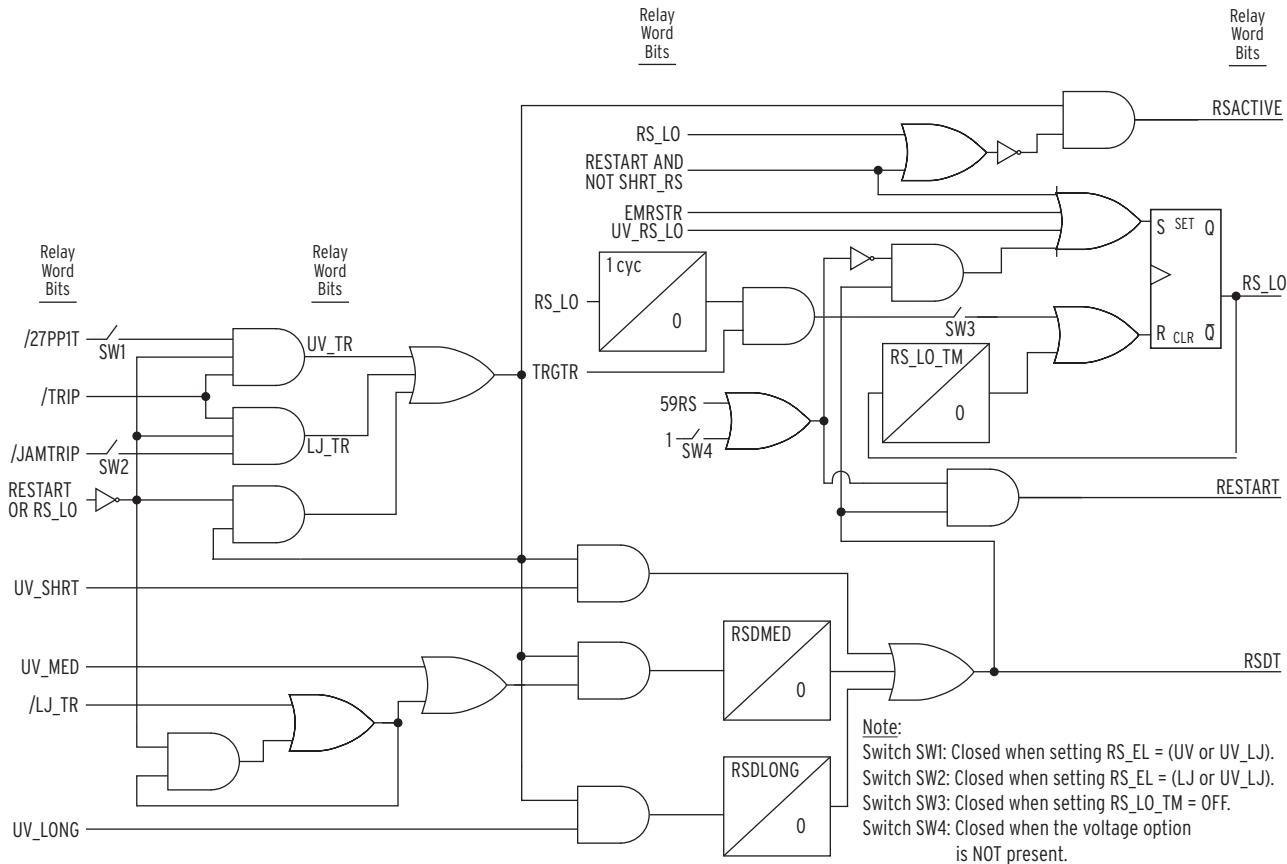

Figure 4.31 Motor Restart Logic
Set Restart Element (RE_ELE) to select the tripping elements, undervoltage (UV) and/or load jam (LJ), to initiate the restart sequence. See *Figure 4.31* through *Figure 4.34* for the logic diagrams. The voltage option is required for the UV choice and also for the restart voltage level (59RSLVL). Set the 59RSLVL to the minimum voltage required to allow the restart.